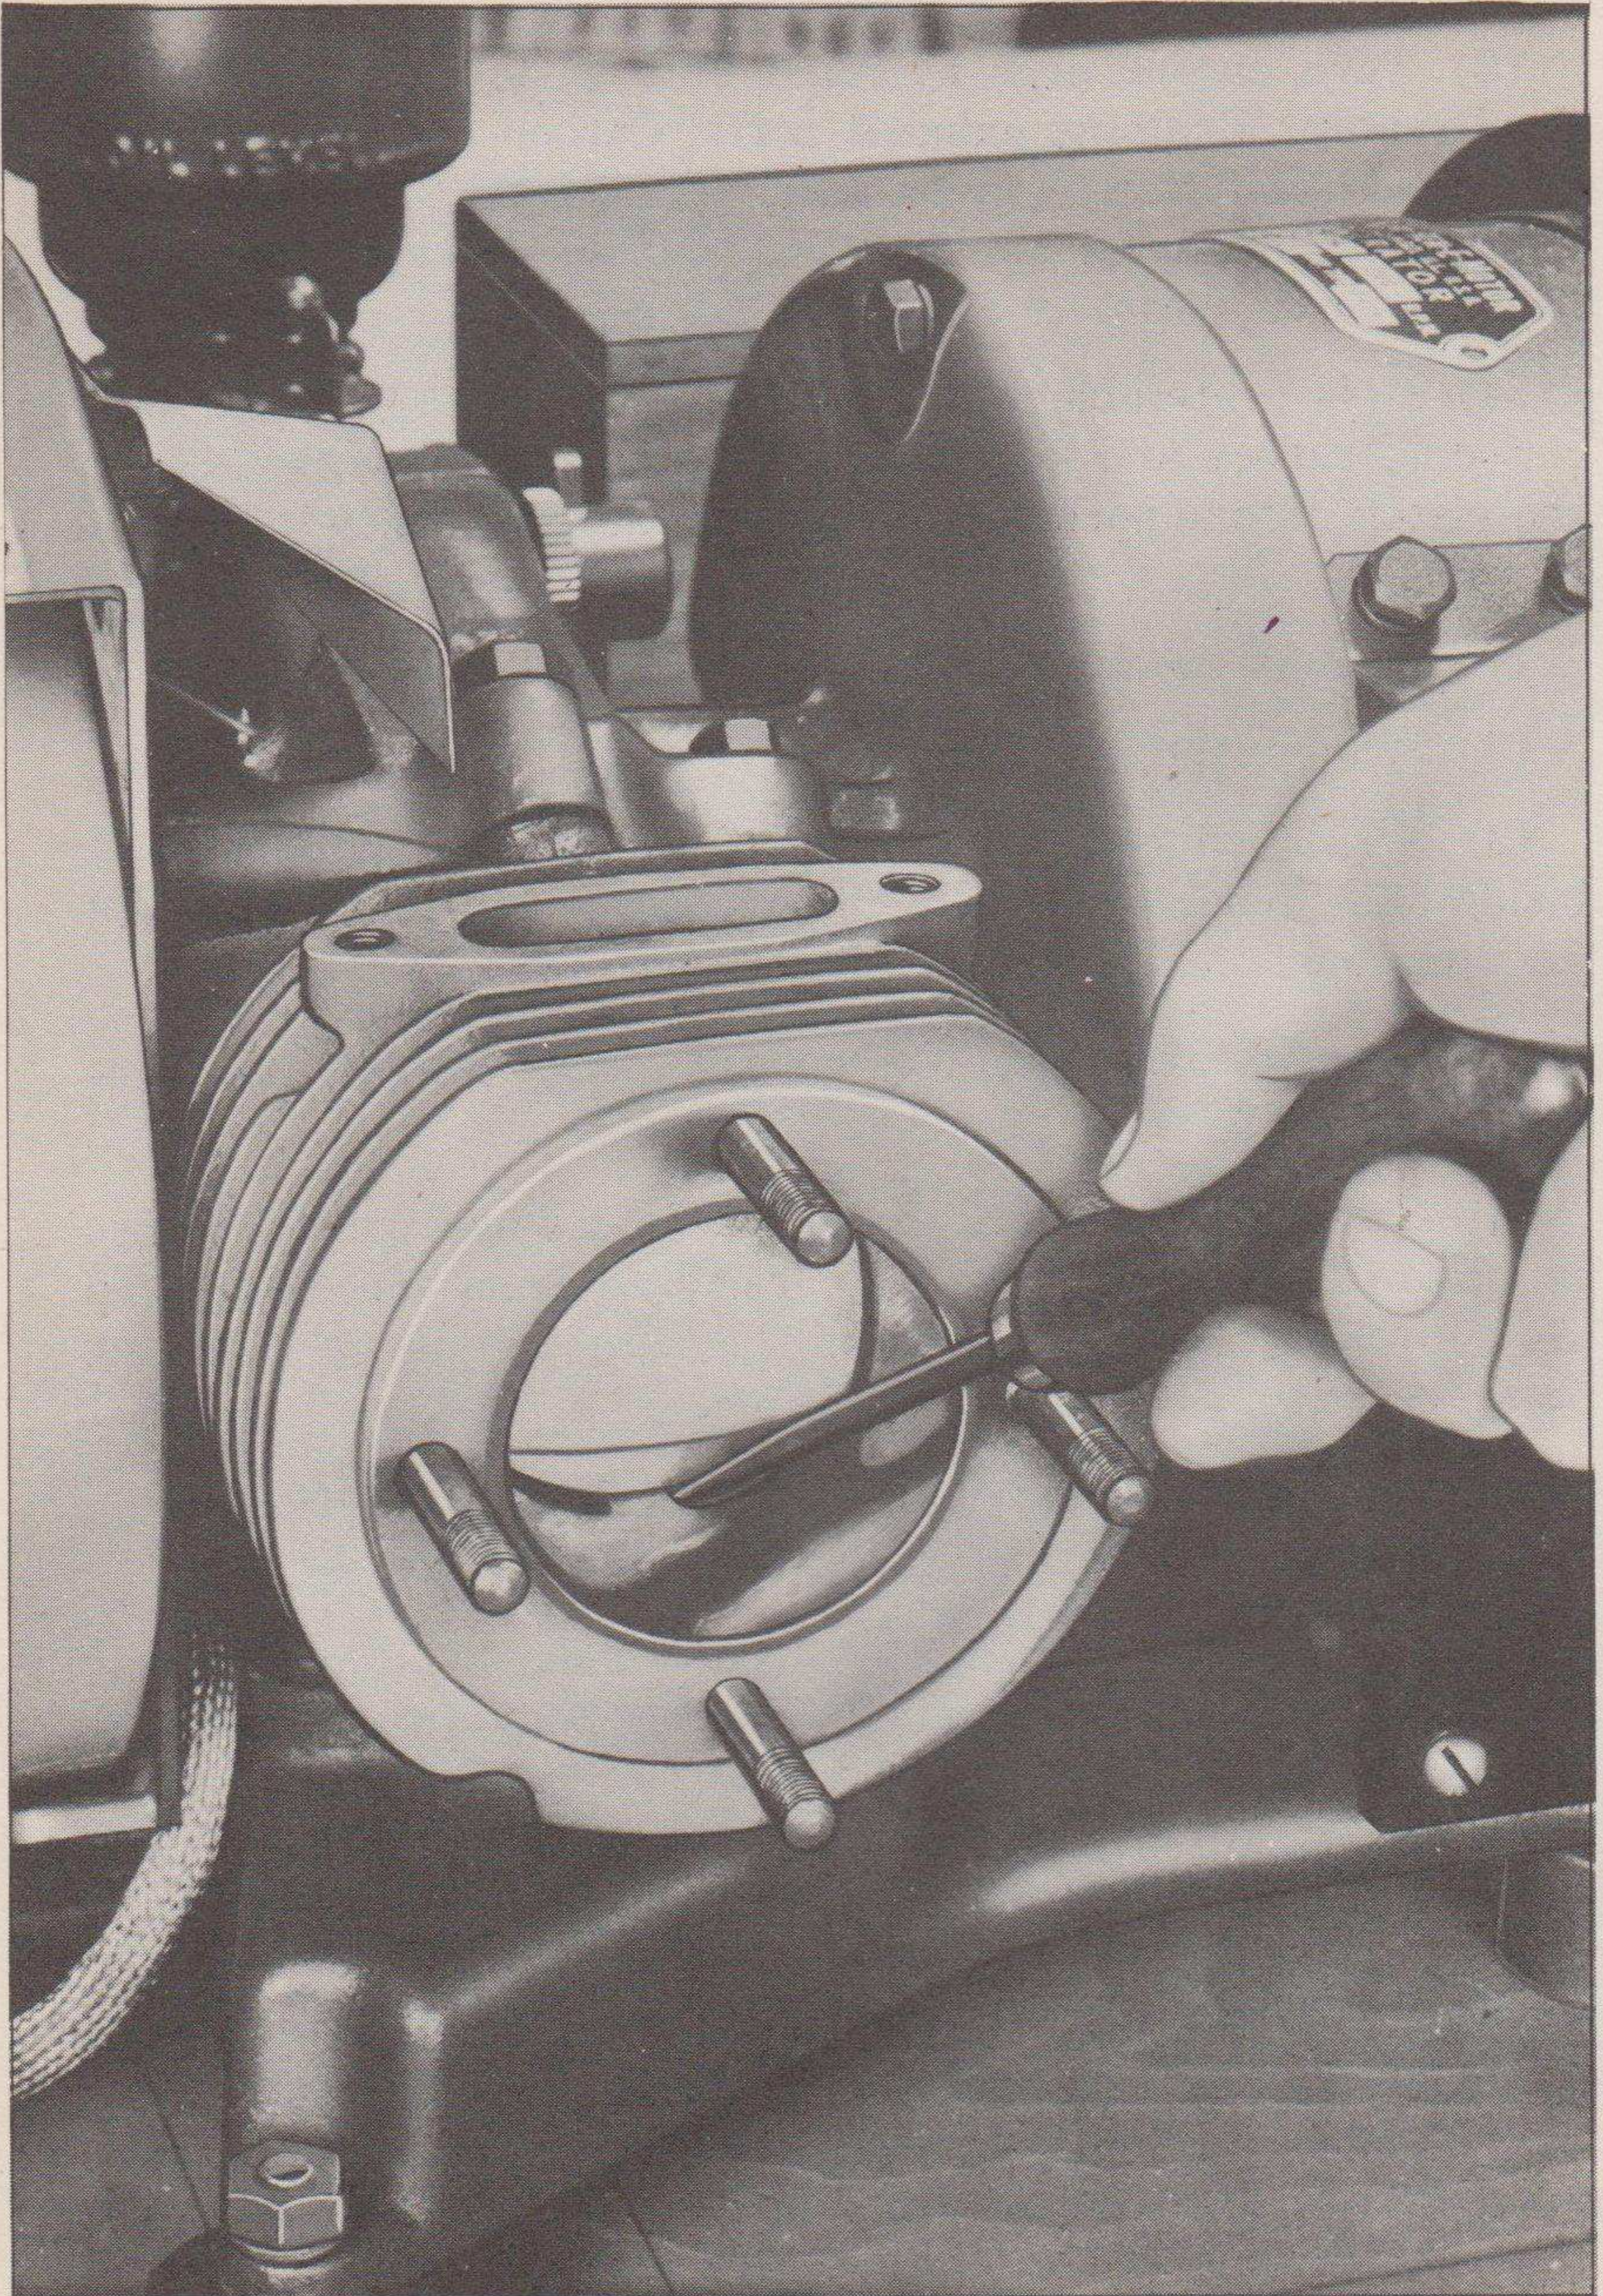

FIG. 15. CARBON REMOVAL—INTAKE PORTS
(1) Remove the fan housing (52).
(2) Remove the cylinder head (7).
(3) Scrape off carbon and lead deposits from cylinder head, inside of cylinder and top of piston. Use carbon scraper (149) for this work.
(4) Remove carbon and lead deposits from intake ports. (See Fig. 15, page 32.)
(5) Before reassembling the cylinder head make sure all loose particles of carbon and lead are removed from the engine. To avoid breakage to cylinder head, be sure to pull up retaining nuts evenly.